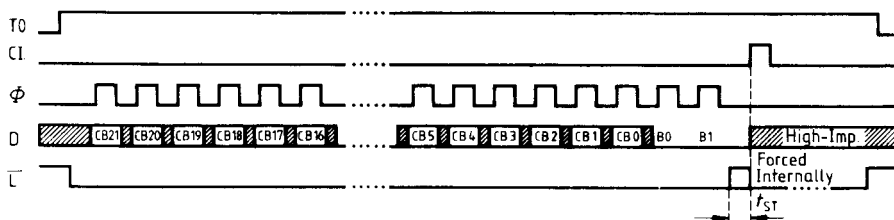

Figure 2b Erasure of Entire NVM
**b) Erasure of entire NVM (figure 2b)****Writing into entire NVM (figure 2c)**